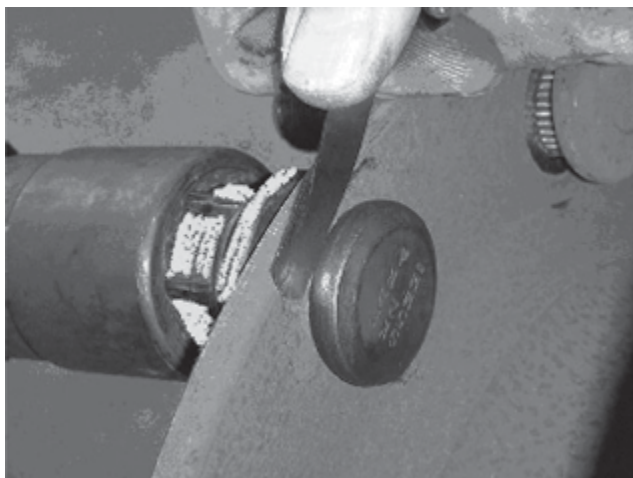

Figure 7: Checking stud installation
- Check** stud installation with a 0.0015 inch feeler gauge (Figure 7) to make sure the bolt is seated.
7. **Check** stud installation with a 0.0015 inch feeler gauge (Figure 7) to ensure the stud is fully seated.